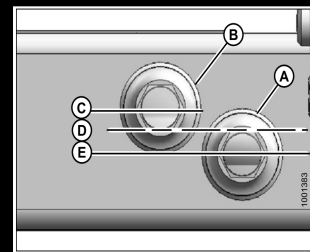

Figure 7.32: Oil Level Sights
Maintain oil level as indicated by (D) in figure 7.32